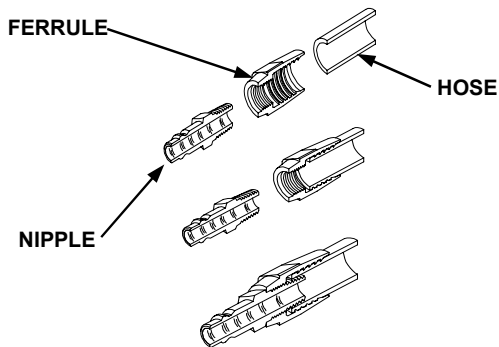

Figure 3-1. Air Hose Nipple Replacement
- a. **AIR HOSE NIPPLE REPLACEMENT.** Refer to figure 3-1 and replace a worn or otherwise damaged air hose nipple in accordance with the following procedure.